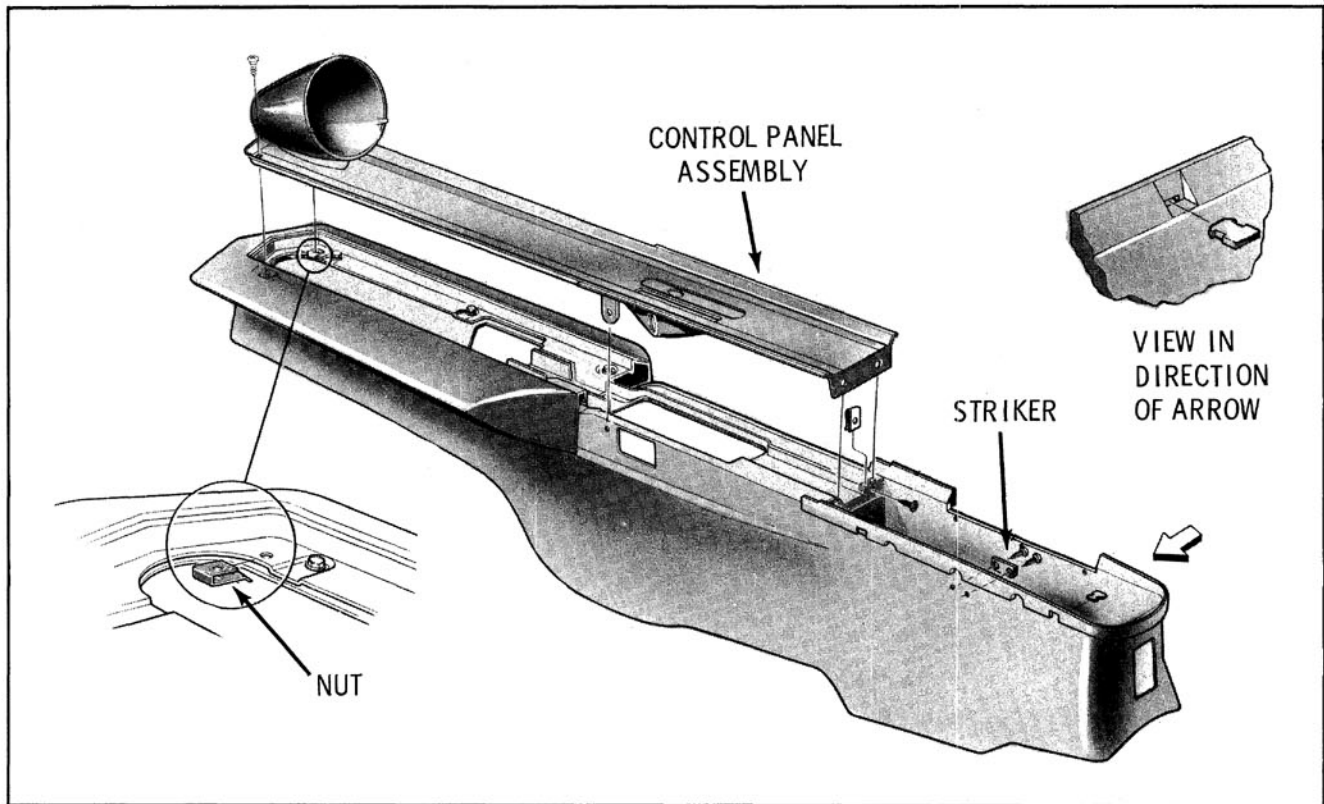

Fig. 12-117 Control Panel to Console Attachment
6. Spread the console side moldings apart and lift off the console control panel. (Fig. 12-117)